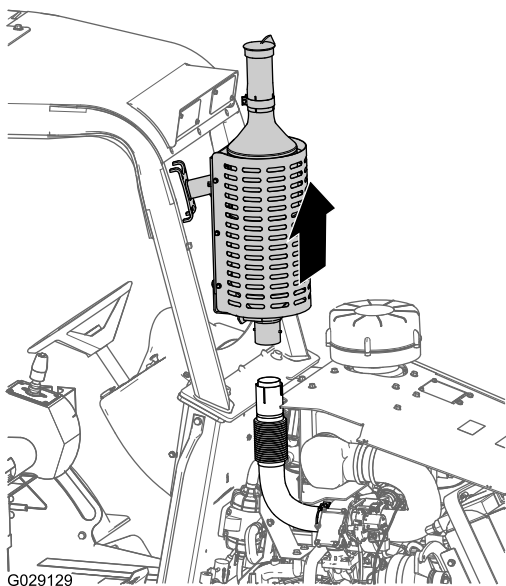

Figure 10
4. Separate the muffler from the turbocharger-exhaust pipe and remove the muffler from the machine (Figure 10).